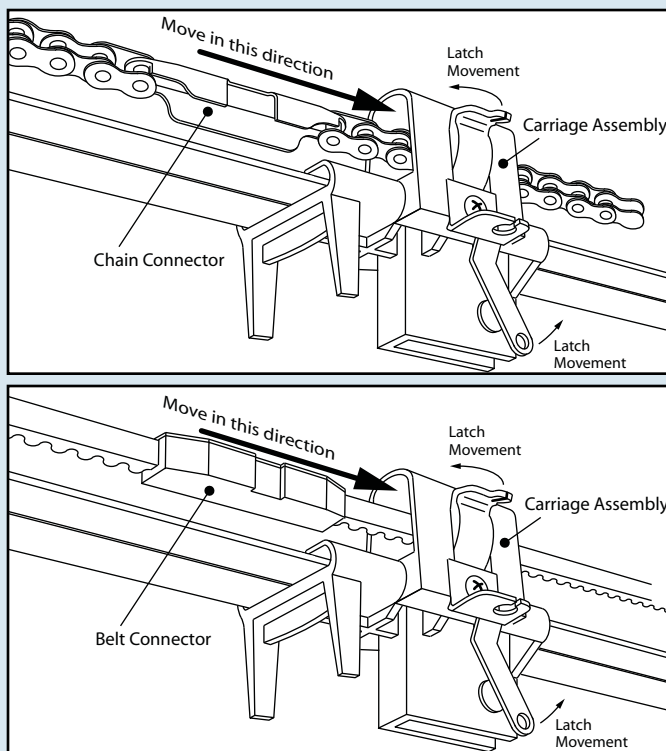

FIG. 6-2 Engage Chain/Belt Connector to Carriage.
1. Press and hold the "Close Travel Limit"  button until the chain or belt connector advances and engages to the Carriage Assembly (FIG 6-2).